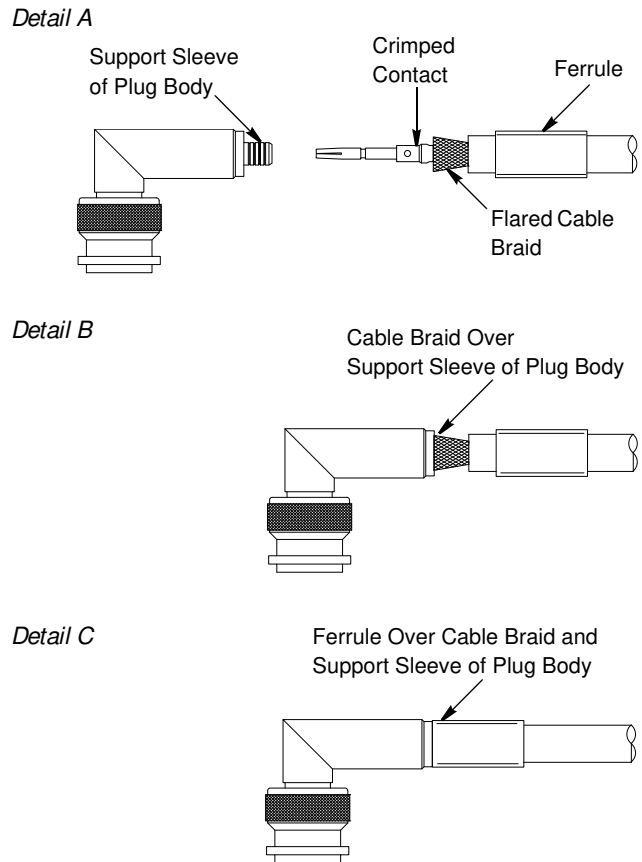

Figure 5
3. Insert the cable center conductor into the center contact. Then, crimp the center contact using the crimping tool referenced in Figure 1. Refer to the referenced instruction sheet for detailed crimping procedure. See Figure 5, Detail A.
4. Insert the center contact into the plug body with the cable braid over the support sleeve of the plug body. See Figure 5, Detail B.
6. Slide the ferrule over the cable braid. See Figure 5, Detail C. Then, crimp the ferrule using the crimping tool referenced in Figure 1. Refer to the referenced instruction sheet for detailed crimping procedure.